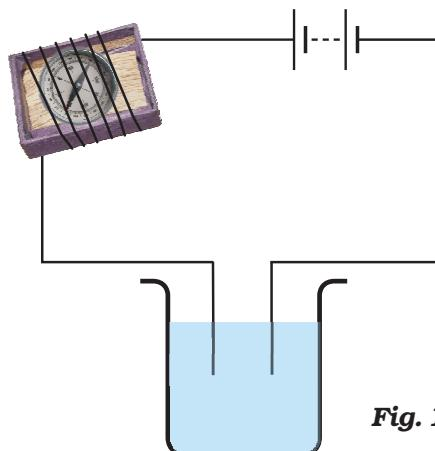

Fig. 14.9
3. Name three liquids, which when tested in the manner shown in Fig. 14.9, may cause the magnetic needle to deflect.